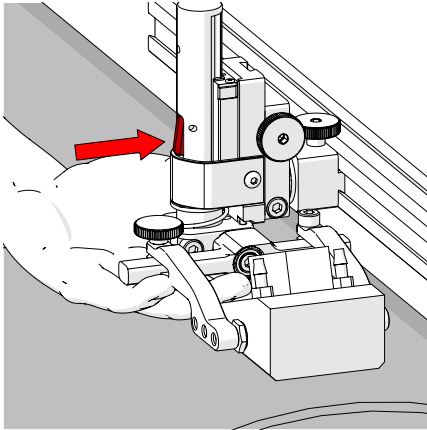
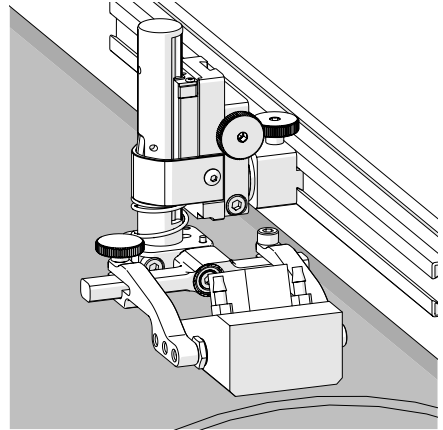

Fig. 129 - Press latch button
Fig. 130 - Lower toward scan surface
4. Lift the yoke slightly and press the latch button (Fig. 129), then slowly lower towards scanning surface to apply spring pressure to the wedge (Fig. 130).